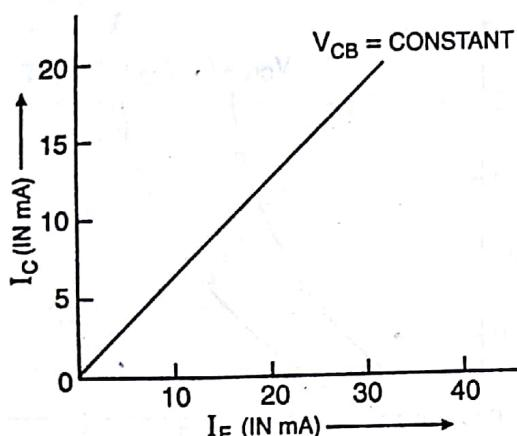

Fig. 8·5. Current transfer characteristics in CB mode
(3) Current transfer characteristics— Keeping the collector-base voltage V_{CB} constant, a graph plotted between the emitter current I_E and the corresponding collector current I_C is called the current transfer characteristics, which is a straight line as shown in Fig. 8·5. The slope of this straight line is called the *current gain* in the common base mode.